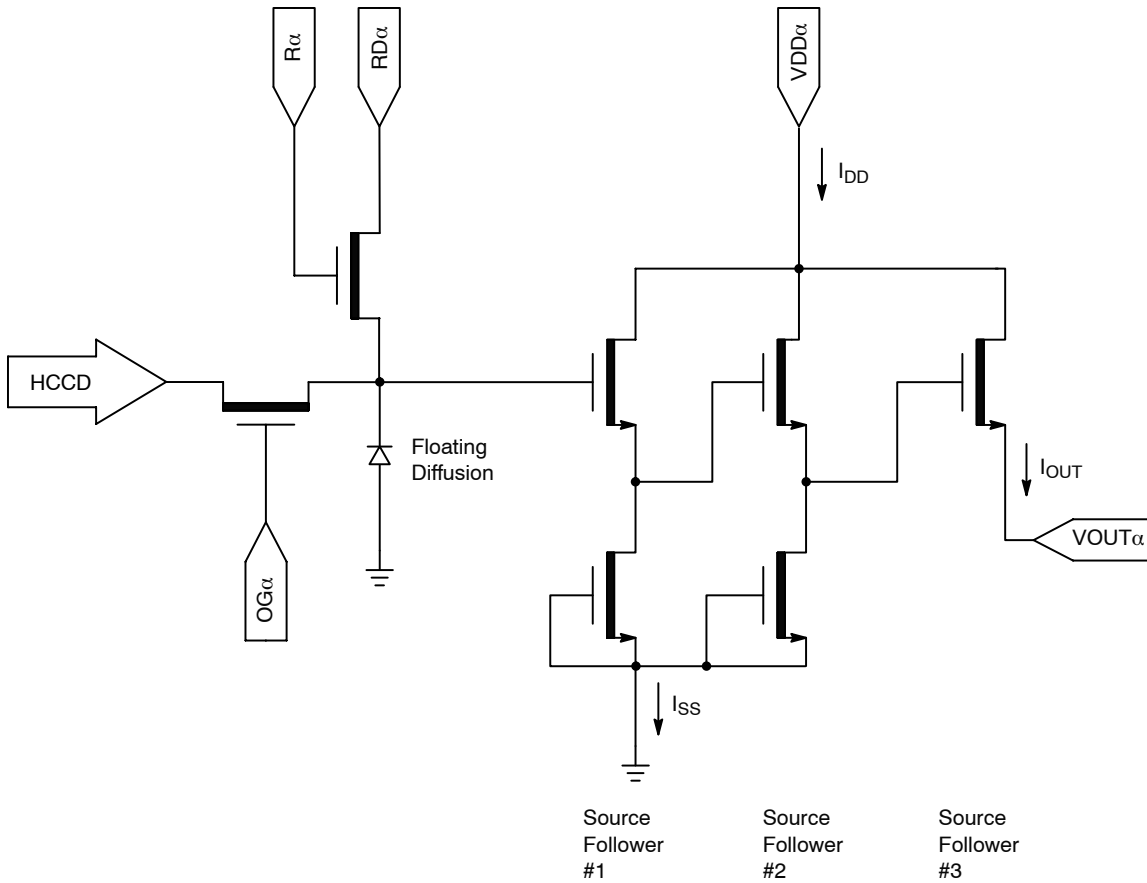

Figure 20. Output Amplifier
2. The maximum DC current is for one output. I_{DD} = I_{OUT} + I_{SS}. See Figure 20.